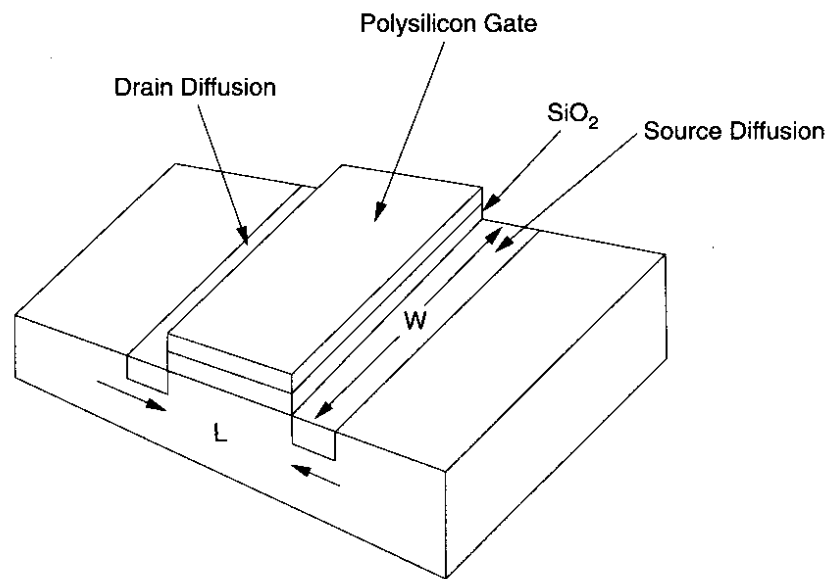

FIGURE 2.8 Geometric terms in the MOS device equation
- W/L is a geometry dependent term. (See Figure 2.8)